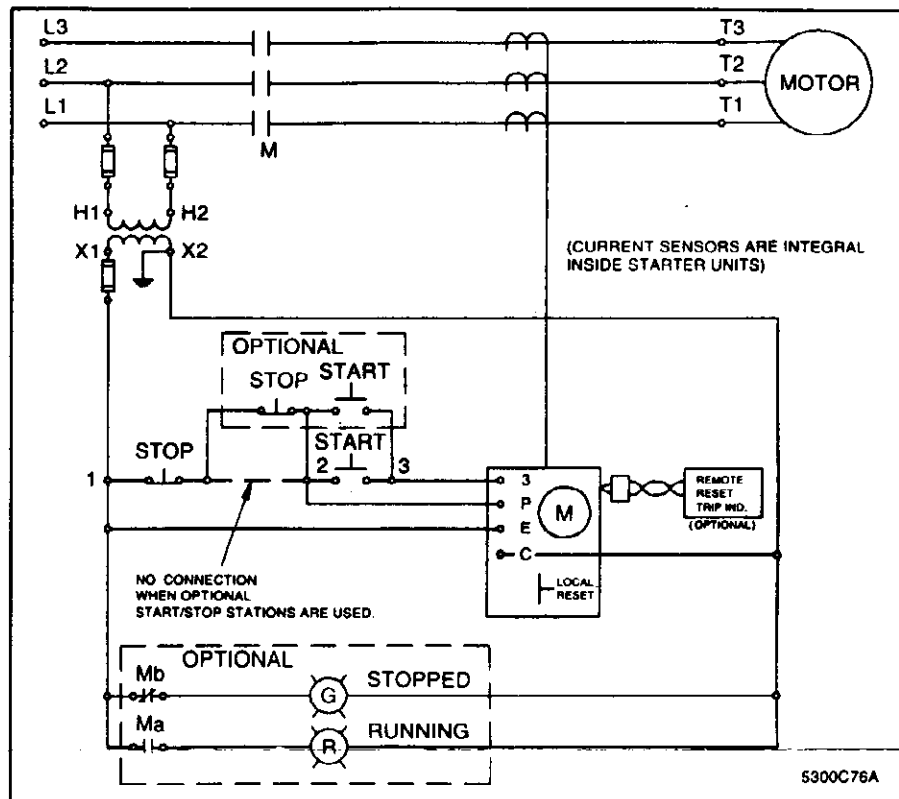

Fig. 1 Internal Holding Circuit - 3 Wire
4. Make control wire connections as shown in Figure 1. Strip control wires for terminals 3-P-E-C not more than $\frac{1}{4}$ inch.